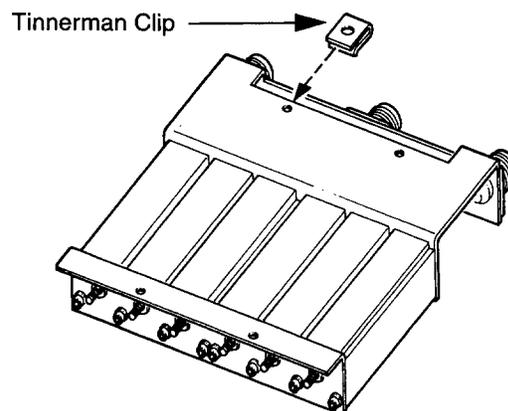

Figure 3-1. Duplexer, Bottom View
13. Using a pair of needle nose pliers, place Tinnerman clips over four of the mounting holes of the duplexer (refer to Figure 3-1).